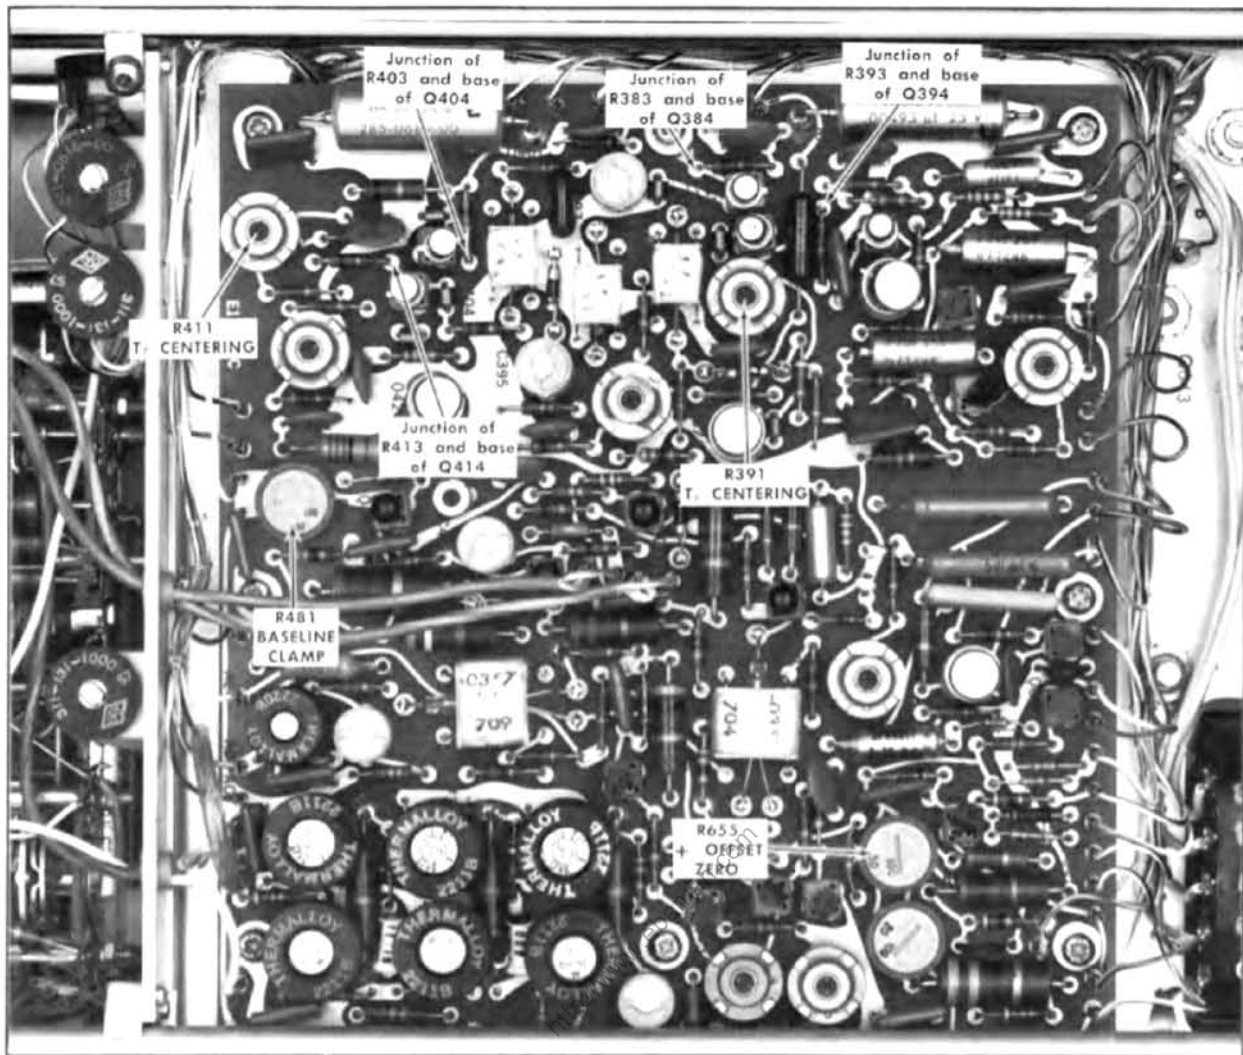

Fig. 5-5. Bottom circuit board: Location of test points and adjustments in steps 4 through 8.
- f. Connect the negative lead of the voltmeter to the junction of R383 and the base of Q384 (see Fig. 5-5).
- g. Connect the positive lead of the voltmeter to the junction of R393 and the base of Q394 (see Fig. 5-5).
- i. ADJUST—R391, T_r CENTERING adjustment, (see Fig. 5-5) if the voltage is not correct.
- Connect the negative lead of the voltmeter to the junction of R403 and the base of Q404 (see Fig. 5-5).
- Connect the positive lead of the voltmeter to the junction of R413 and the base of Q414 (see Fig. 5-5).
- ADJUST—R411, T, CENTERING adjustment, (see Fig. 5-5) if the voltage is not correct.
g. ADJUST—R655, +OFFSET ZERO adjustment, (see Fig. 5-5) if the offset zero level is not correct.
8. Adjust Baseline Clamp ①
f. ADJUST—R481, BASELINE CLAMP adjustment, (see Fig. 5-5) if the baseline level is not correct.